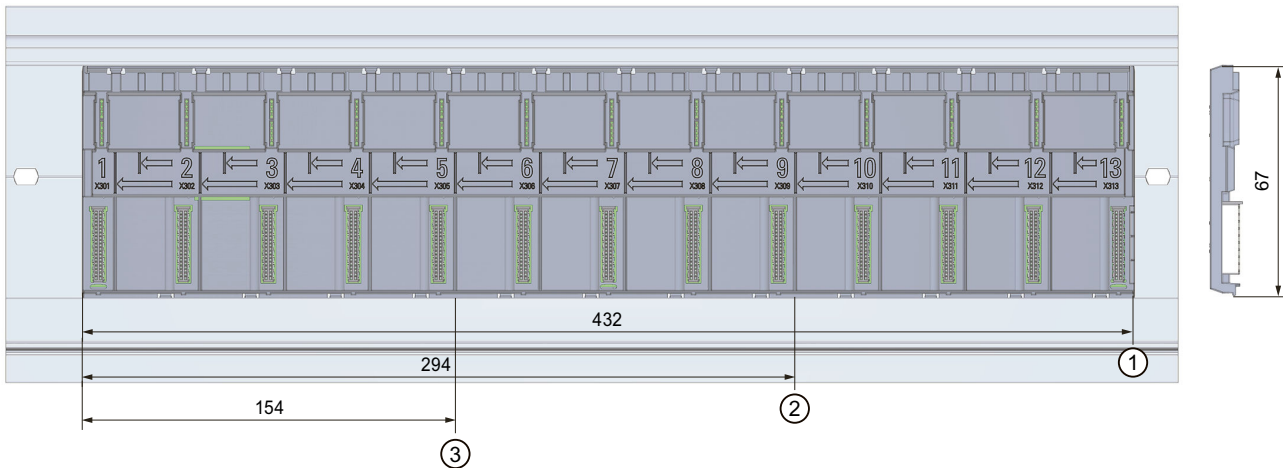

Figure 9-1 Dimension drawing of active backplane bus front and side view
- Dimension drawing: original page 32, Figure 9-1. Use the ST 1+8 length identified by marker 2.